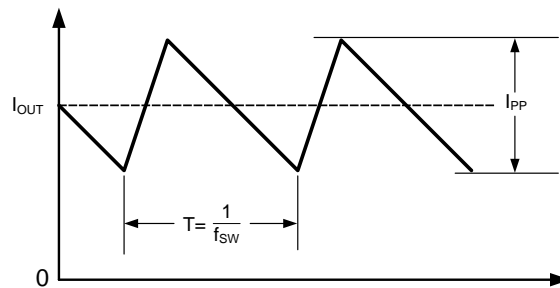

Figure 23. Inductor Current
- I_{PP} represents inductor peak to peak ripple current in Figure 23, and is defined as: (10)